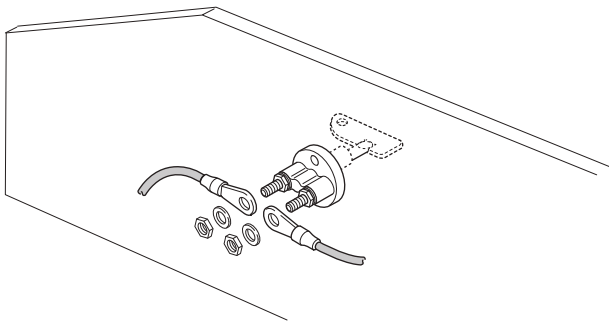
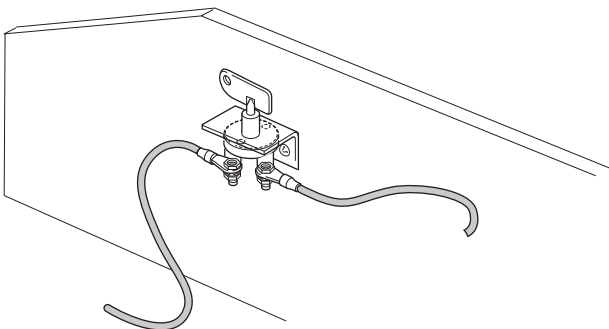

Fig. 42
Fig. 43
- ▶ Select a suitable mounting option for the battery cut-off switch (see Installation examples (Fig. 42) (Fig. 43)).